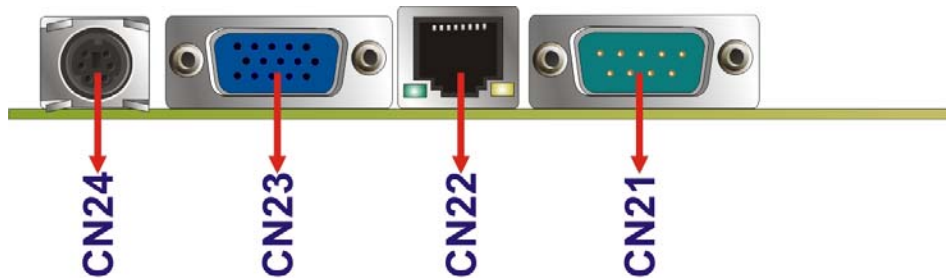

Figure 3-21: IOWA-LX-600 On-board External Interface Connectors
The IOWA-LX-600 external peripheral interface connectors are listed below and shown in Figure 3-21:
CN Location:	See Figure 3-21
CN Location: See Figure 3-21
- CN Location:** See Figure 3-21